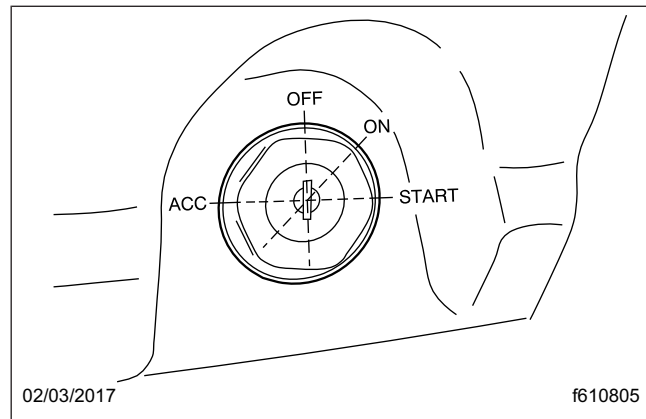

Fig. 25.7, Ignition Switch Positions
4. Ensure that the transmission shift control is in Neutral (N), Park (P), or the Park Brake (PB) position.
5. Without starting the engine, turn the ignition switch to the ON position (**Fig. 25.7**). The electronic gauges on the instrumentation control unit (ICU) will complete a full sweep of their dials, the warning and indicator lights will illuminate, and the buzzer will sound for three seconds.